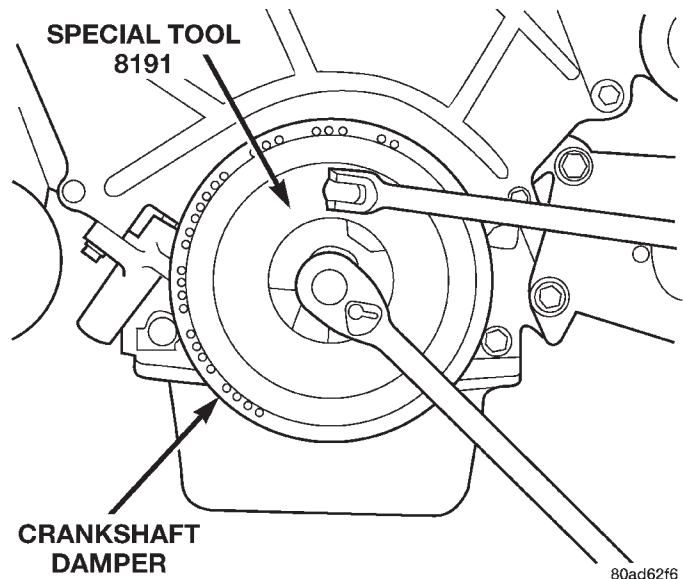

Fig. 30 Crankshaft Damper Center Bolt—Removal and Installation
(1) Disconnect negative cable at right strut tower.
(2) Remove upper radiator crossmember. Refer to Group 23, Body for procedure.
(3) Remove fan module. Refer to Group 7, Cooling System for procedure.
(4) Remove the accessory drive belts. Refer to Group 7, Accessory Drive System for procedure.
(5) Use Special Tool 8191 to hold crankshaft damper while removing center bolt (Fig. 30).
(1) Install crankshaft damper using Special Tools C-4685-C1 (5.9 in.) Bolt, with Nut and Thrust Bearing from 6792, and 6792-1 Installer (Fig. 32). Install center bolt and tighten to 115 N·m (85 ft. lbs.) (Fig. 30).
- (2) Install accessory drive belts.
- (3) Install fan module.
- (4) Install upper radiator crossmember.
- (5) Connect negative cable.